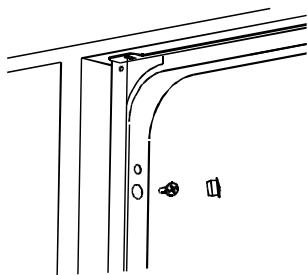

Fig. 25
- a) Put screws through the holes on the outer edge and fix them into the side of the cupboard (Fig. 25).